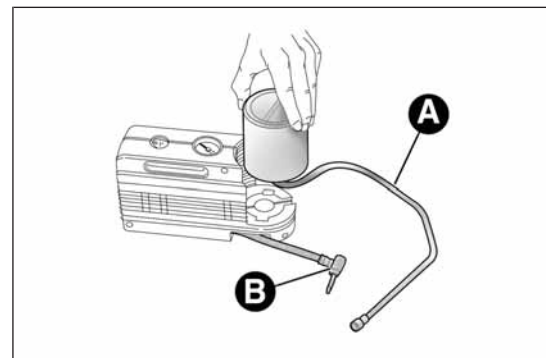

fig. 133
- ☐ release connector A fig. 133 and disconnect tube B;